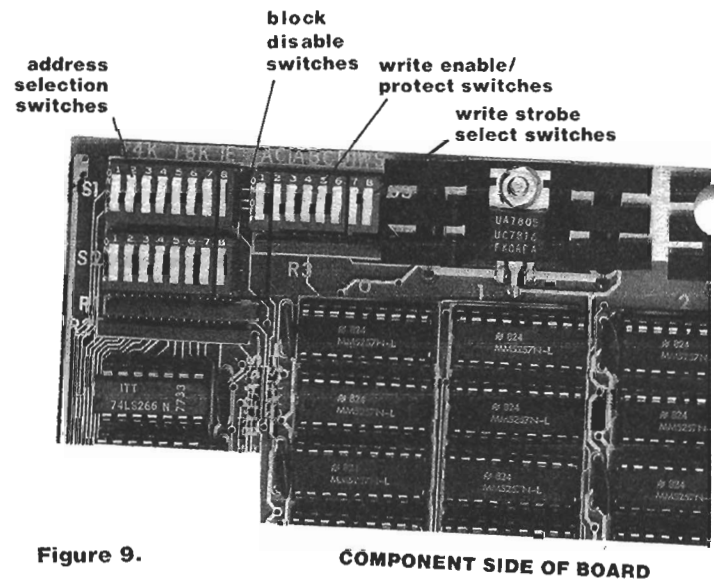

Figure 9.
4. Observe the 8 pole dip switches. The side with the number 1-8 faces the upper edge of the board (see Figure 9). Mount the switch in place, then solder. (*Note: may be already soldered in place.*)